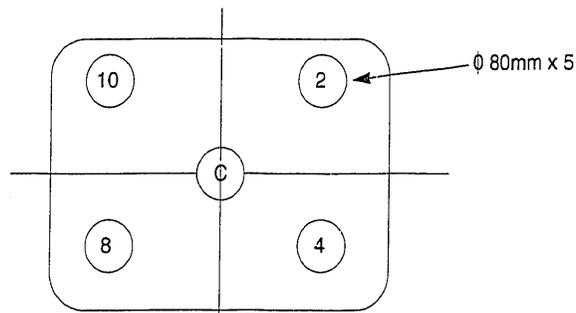

Fig. 2-1-3E
- (9) Check the Purity in each color of R, G, and B visually. Then, turn the screen to white and check the landing at the screen position shown in Fig. 2-1-3E with a microscope.